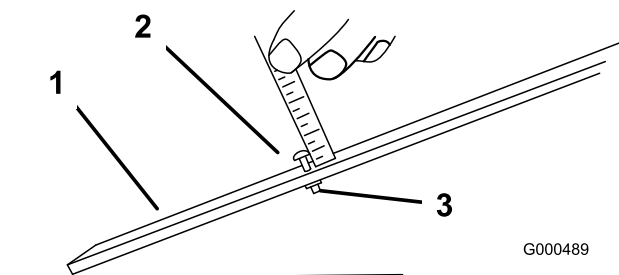

Figure 9
2. Loosen the nut on the gauge bar and set the height adjusting bolt to the desired height-of-cut (Figure 9). The distance between the bottom of the bolt head and the face of the bar is the height-of-cut.